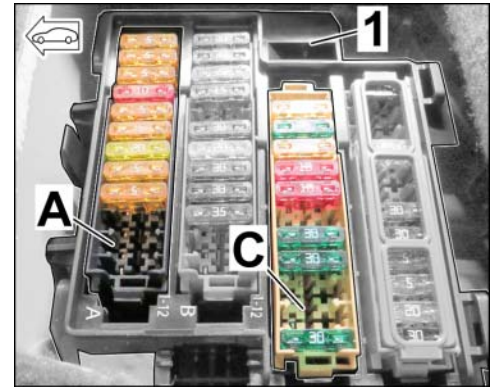

Figure 16
3.3.3 Connect power supply as shown in the table (⇒ *Figure 16*).
3.3.5 Protect the front camera power supply with new fuses (⇒ *Figure 16-A11 and C11*).